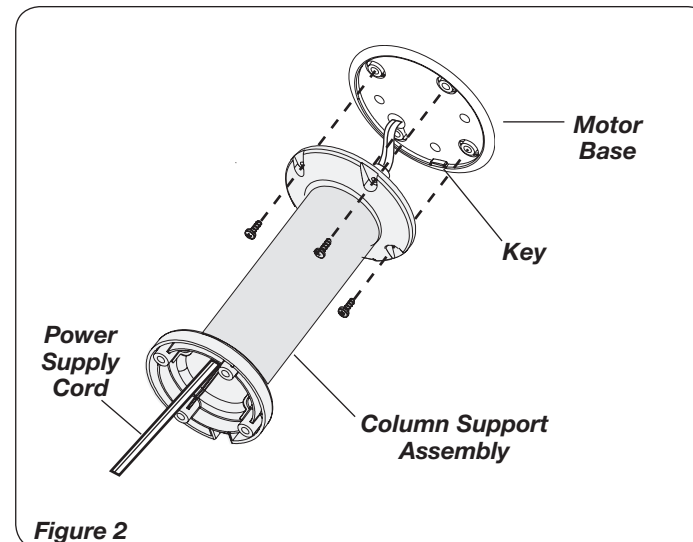

Figure 2
- Attach the **Column Support Assembly** to the **Motor Base** with (4) M5 X 13mm Screws. Make certain to align the **Key** on the **Motor Base** with the **Locating Notch** on the **Column Support Assembly**. (Figure 2)